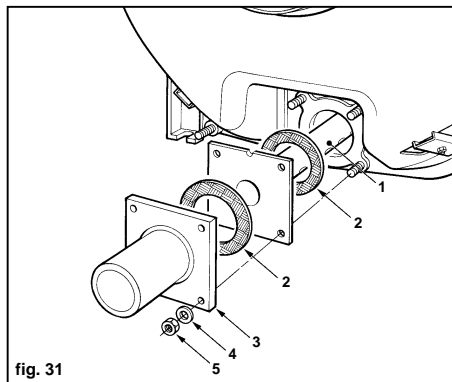

fig. 31
**Positioning and fitting the diffuser pipe with connection to a traditional central heating system via the lower boiler coupling (fig. 31)**
17 (fig. 31) Fit the diffuser pipe "1" to the lower boiler coupling in the traditional version or to the upper boiler coupling (ill. 32) in the low temperature version, if necessary in parts, inserting the gasket "2" in between.